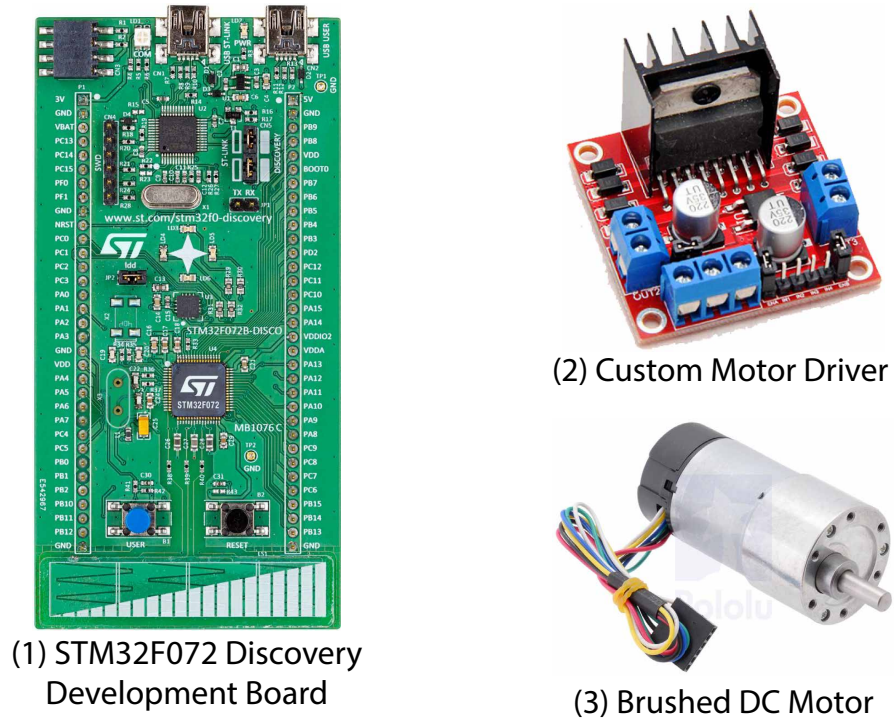

Figure 1: Components used to realize complete cyber-physical system.
The principal design challenges in embedded systems stem from their interaction with physical processes, and are therefore much more diverse field than computer programming or electrical engineering alone. To become a truly competent embedded systems designer, one must have an intimate understanding of many engineering fields, including: programming and software design, hardware architecture, control theory, circuit theory, PCB design, *etc.* The homework and labs in this course are specifically tailored to cover a wide range of disciplines familiar to an embedded systems engineer. Specifically, you will be guided through the design and control of a DC motor driver, using the components shown in Figure 1. The system will consist of (1) an STM32F072 DISCOVERY development board, (2) a custom-made extension board that contains all the required power interface between the DC motor and the STM microcontroller, and (3) the brushed DC motor itself. In the labs you will learn about the STM microcontroller, and will primarily focus on software development. In the homework you will design, fabricate, and assemble your own custom motor driver board. By the end of the semester, you will acquire the skills needed to realize a complete cyber-physical system.